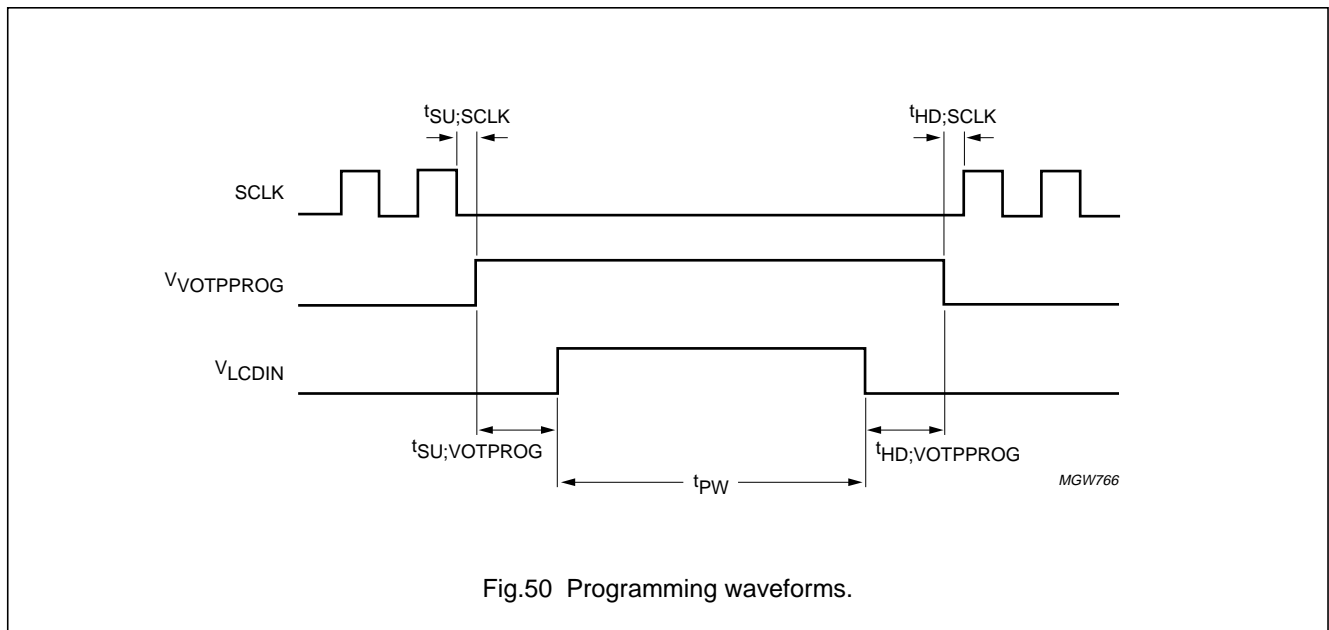

Fig.50 Programming waveforms.
22.8 Programming specification**Table 27** Programming specification; see Fig.50